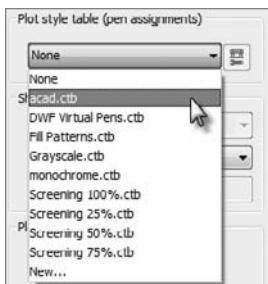

FIGURE 15.11 Assigning a color-dependent plot style to the drawing
2. Expand the dialog box if necessary, and choose acad.ctb from the Plot Style Table drop-down list in the top-right corner (see Figure 15.11).